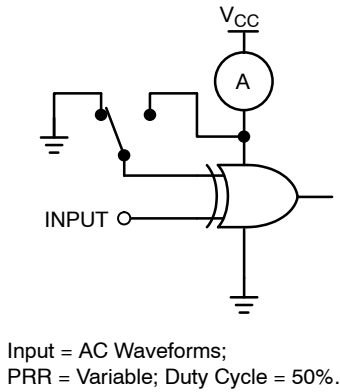

Figure 5.  $I_{CCD}$  Test Circuit
2.  $C_{PD}$  is defined as the value of the internal equivalent capacitance which is derived from dynamic operating current. Current consumption ( $I_{CCD}$ ) at no output loading and operating at 50% duty cycle. (See Figure 5)  $C_{PD}$  is related to  $I_{CCD}$  dynamic operating current by the expression:  $I_{CCD} = (C_{PD})(V_{CC})(f_{IN}) + (I_{CCstatic})$ .